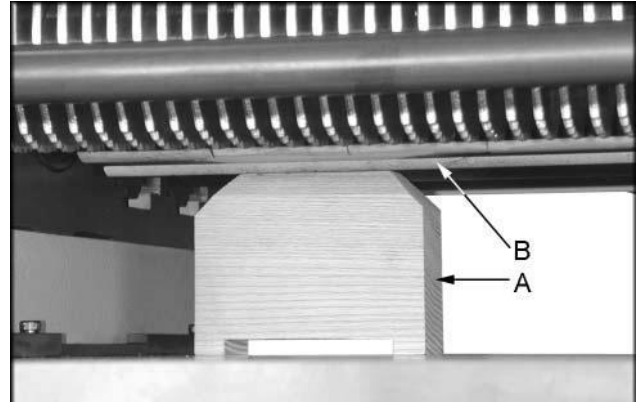
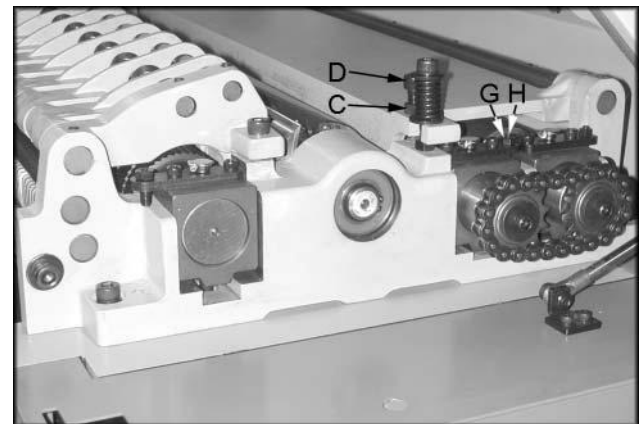

Fig. 17
Figure 18
3. Place wood block (A, Fig 17) under the left side of pressure bar (B, Fig 17). The top of wood gauge should just contact the pressure bar. If it doesn't, loosen jam nut (C, Fig 18) and turn the adjusting screw (D, Fig 18) to raise, or lower the pressure bar until it contacts wood gauge.
6. If it doesn't, loosen jam nut (G, Fig 18) and turn the adjusting screw (H, Fig 18) to raise, or lower the out-feed roller until it contacts wood gauge.